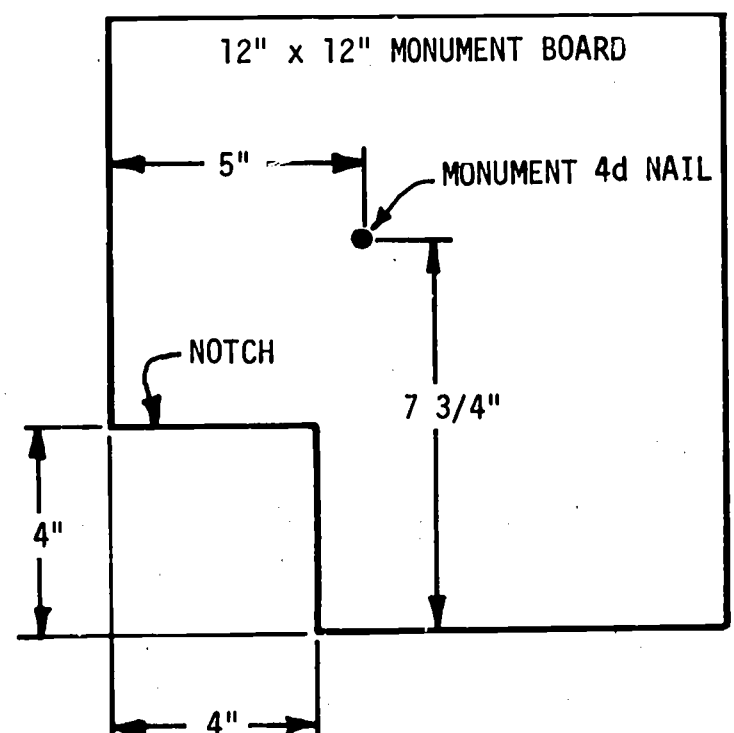

Fig. 12-1. Location of Monument Marker on Monument Site Board
- \*The instructor should precut one piece for each group and attach the marker as shown in Fig. 12-1.